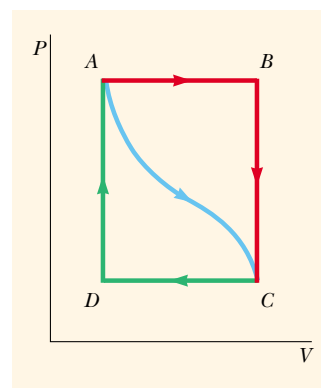

Figure P20.40
40. In Figure P20.40, the change in internal energy of a gas that is taken from A to C is +800 J. The work done along the path ABC is +500 J. (a) How much energy must be added to the system by heat as it goes from A through B and on to C? (b) If the pressure at point A is five times that at point C, what is the work done by the system in going from C to D? (c) What is the energy exchanged with the surroundings by heat as the gas is taken from C to A along the green path? (d) If the change in internal energy in going from point D to point A is +500 J, how much energy must be added to the system by heat as it goes from point C to point D?